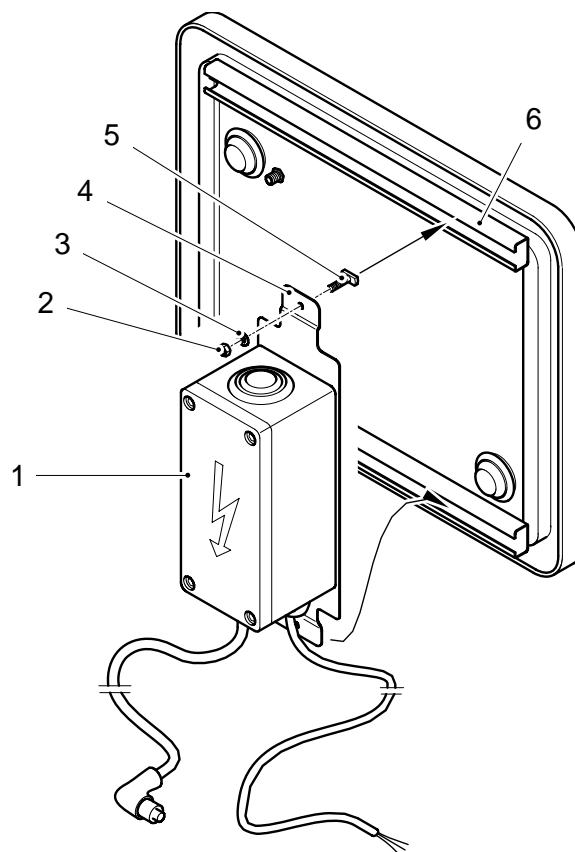

Figure 7-1 Mounting the power supply unit box
- (1) Hold the power supply unit box (Figure 7-1 Item 1) with its mounting plate (Figure 7-1 Item 4) vertically on the side (outside the pole area) of the DFS 600 on the two C-rails (Figure 7-1 Item 6).
- (2) Hook the lower lug of the mounting plate into the lower C-rail.
- (3) Insert the T-bolt (Figure 7-1 Item 5) into the upper C-rail and screw tight on to the DFS 600 with the hexagonal bolt (Figure 7-1 Item 2) and washer (Figure 7-1 Item 3).